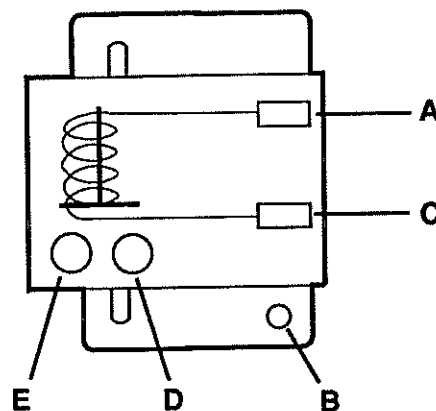

Figure 7-1
- Connect 12 volts between the small terminal (A, Figure 7-1) and solenoid case (B) or second small solenoid terminal (C).